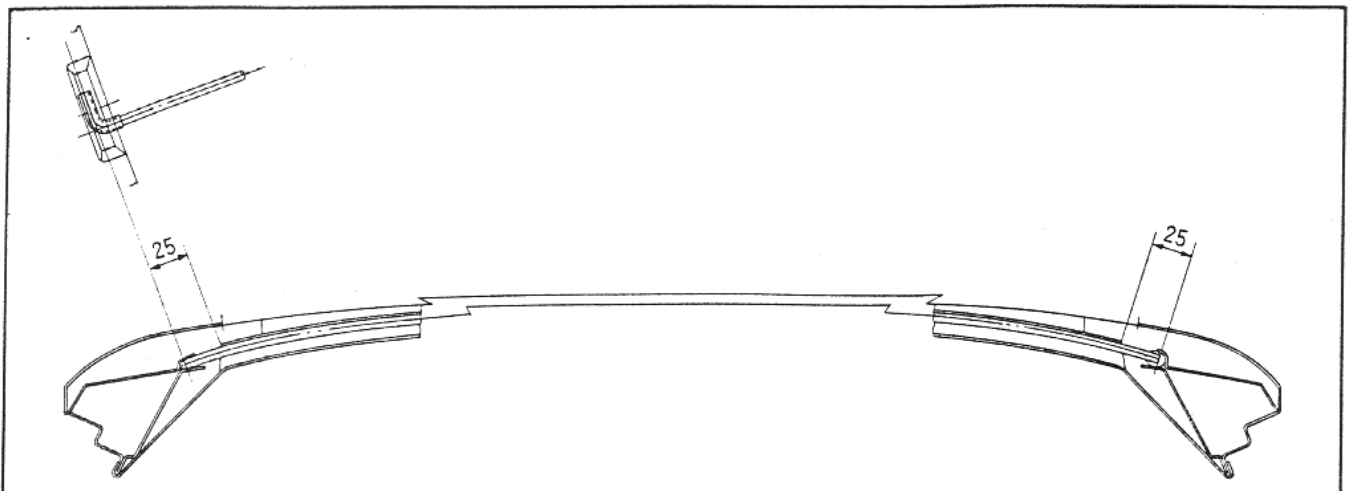

Fig. 14-110 Listing wire
3. Insert both ends of the listing wires to their proper positions in successive order beginning from the rear as shown in Fig. 14-110.